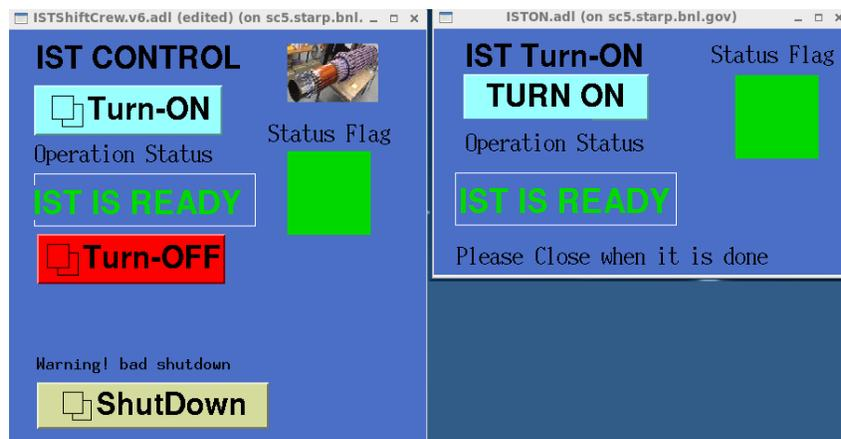

Figure 3 IST Main GUI (Left) and Turn-on Confirmation Window (Right) after IST is successfully turned on.
- 2- Click on “Confirm” button to start turning on IST. A terminal (Figure 2 right) will show up, automatically executing the commands to turn on the IST. After about 90 seconds, the terminal (Figure 2 right) will disappear. The IST status bar will become Green indicating that turning on IST is successful and a “IST IS READY” text will appear in main GUI and confirmation windows (Figure 3).